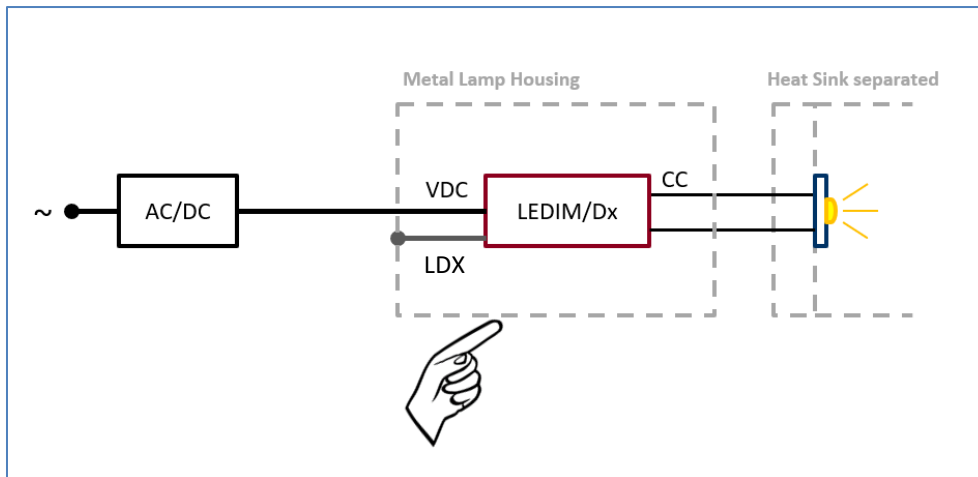

Figure 5: Less Critical Condition: Heat Sink not connected to lamp housing
- COBs or LED engines made of ceramic material are less critical in terms of parasitic capacity. So are cases, where the LED engine is electrically separated from the touch surface (see Figure 5).